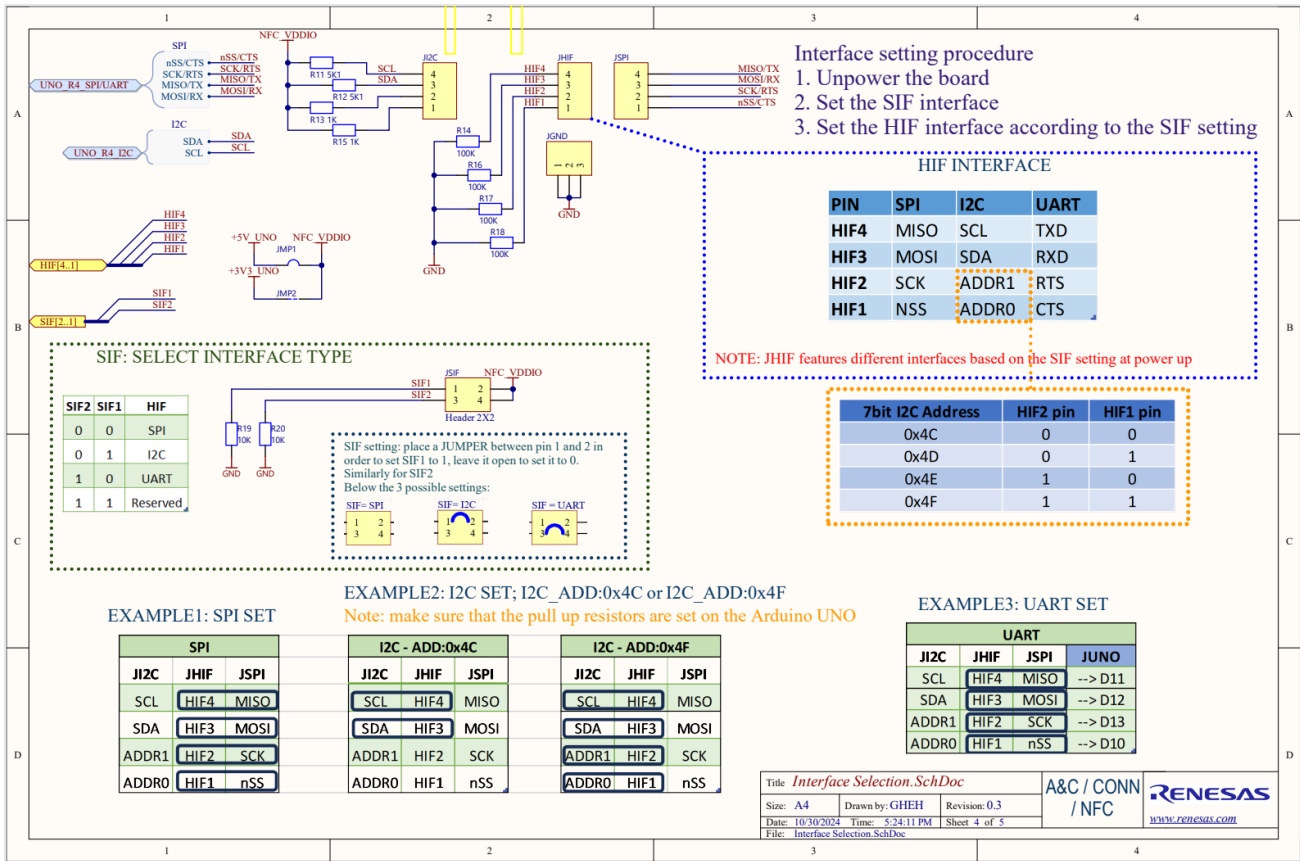

Figure 9. Schematic Sheet 4
- Figure 9. Schematic Sheet 48